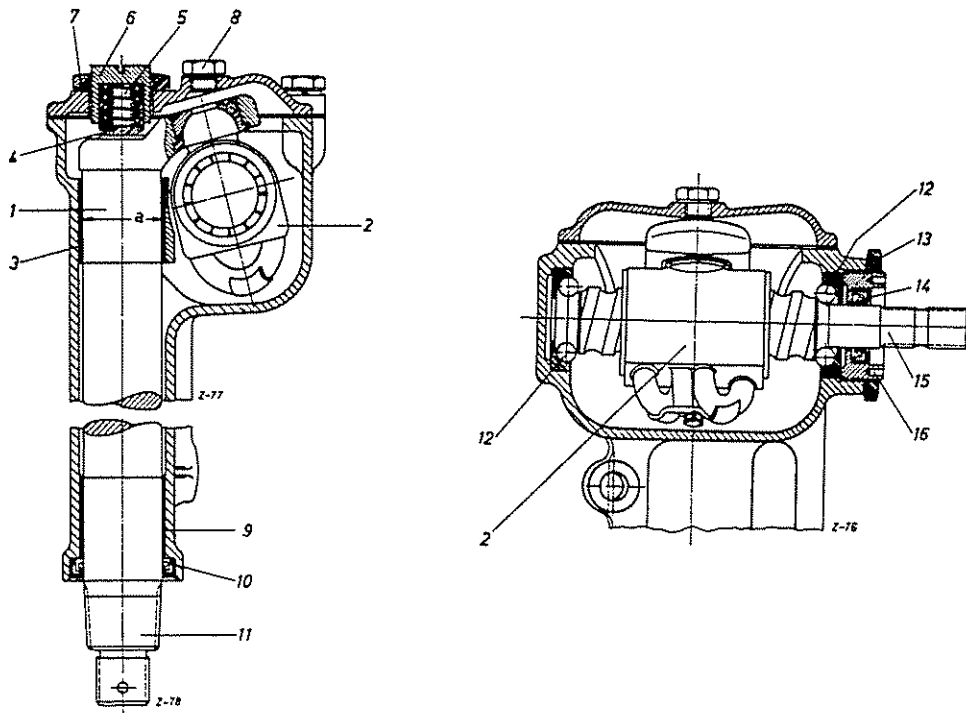

Fig. 46-0/1
5. The set screw for the steering shaft has an M 24×1.5 thread (Fig. 46-0/1 and Table).